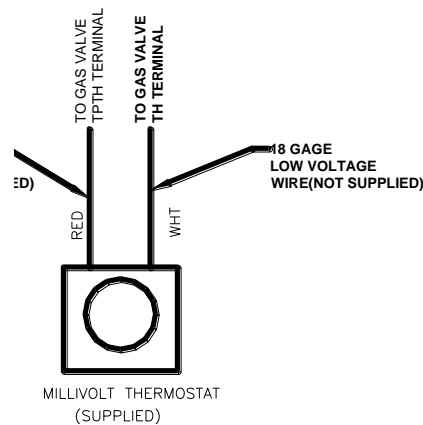

Figure 8
7. Run 18 gage solid copper wires from the Thermostat location to the gas valve's TH and THTP terminals. See Figure 8.